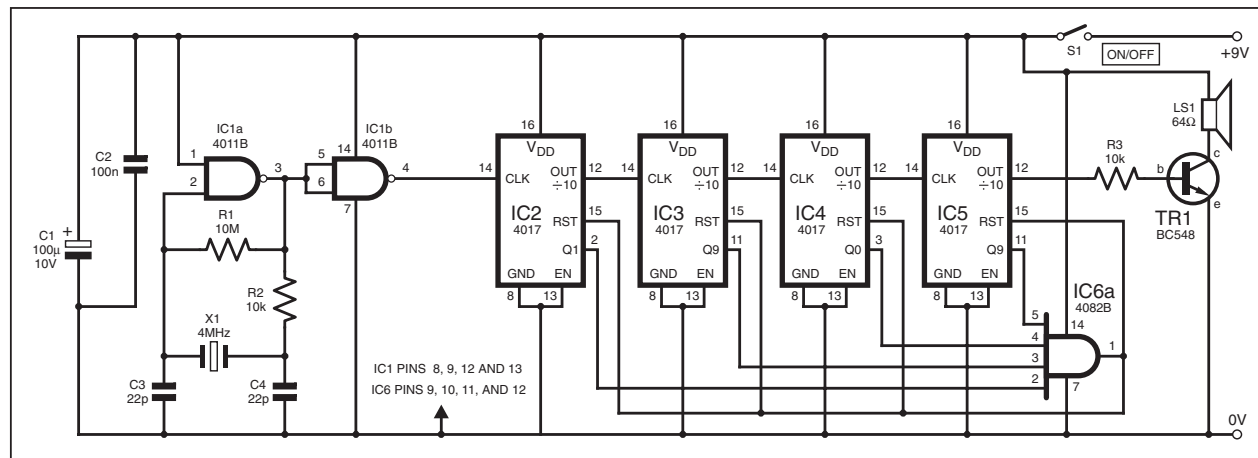

*Fig.3. Circuit diagram for a Solid-State Switch.*
**T**HE circuit diagram shown in Fig.3 was intended to control the supply to a waterproof receiver which is used in harsh environments. Tactile switches were used, positioned behind a plastic membrane. (*Magnetically-operated reed switches could perhaps also be used behind a plastic panel, for a completely weatherproof design activated using a magnet — ARW.*)